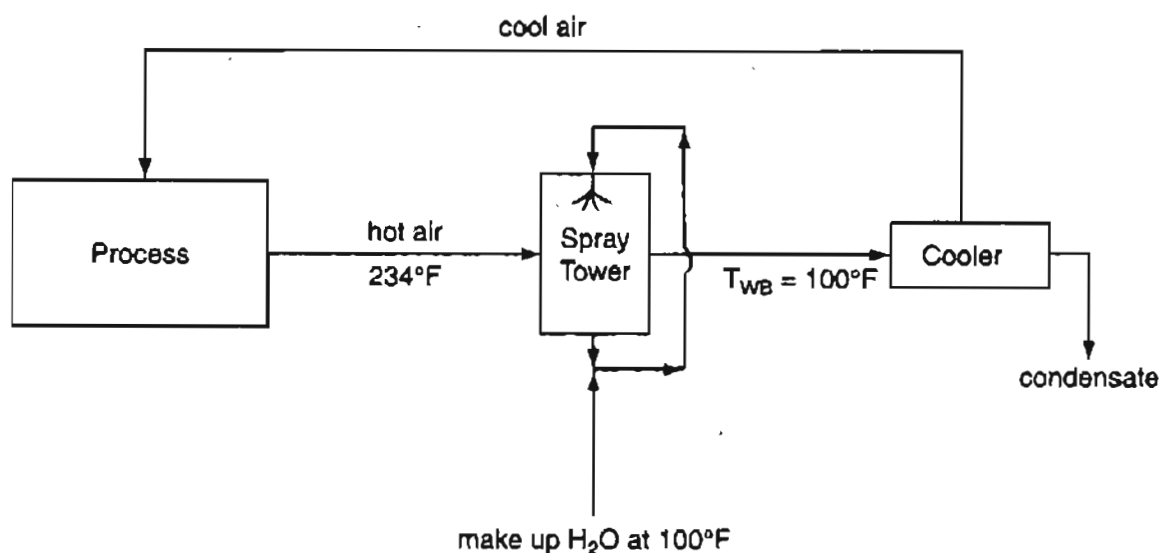

Figure P29.35
- **29.35** Air is used for cooling purposes in a plant process. The scheme shown in Fig. P29.35 has been proposed as a way to cool the air and continuously reuse it. In the process,